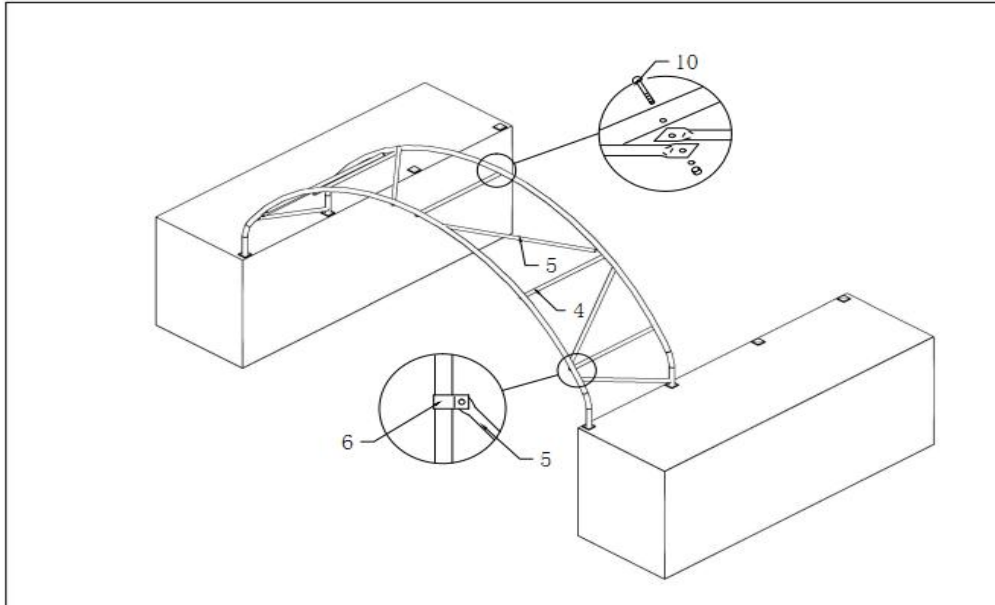

Figure 3
3. As the following **Figure 3** Shown, when finishing installing the first two arches, connect the Connection purlins onto them by using screw M10x80 (part code 10). There are 5 pieces of Connection purlins (part code 4) between two groups. Then install the third arch into base plate and connect the purlins. Finally install the Support tube (part code 5) using Screw M8x70 (part code 9) and Clip (part code 6). By turns the assembly for the frame is finished.